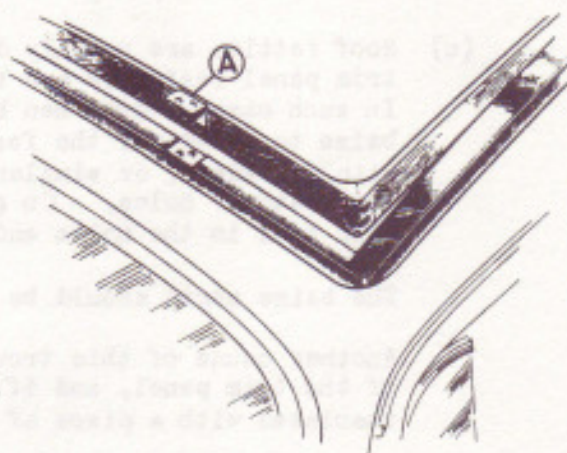

FIG. 18. THE FINISHER RETAINING BRACKETS.
- (ii) Remove the screws from the three brackets retaining the finisher to the front drain channel (A, Fig.18.). These are accessible from the top only.
- (iii) Lift front edge of finisher upwards, as illustrated in Fig.18, sufficiently to expose the screws retaining the brackets to the finisher, then remove the screws and brackets.